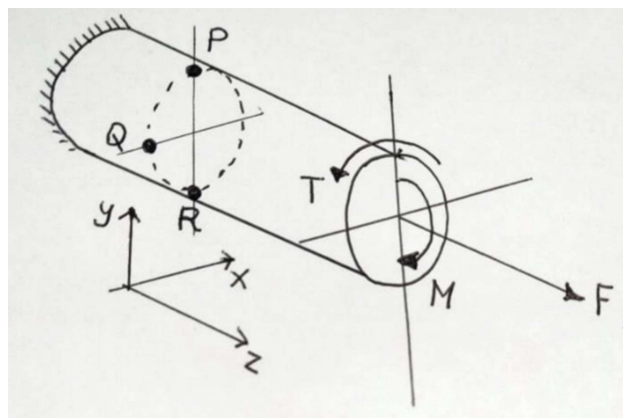

Figure Q4
4. A shaft of a 20mm diameter is subjected to an axial tension of $F = 5000 \text{ N}$, bending moment $M = 200\pi \text{ Nm}$ and at the same time a torque of $T = 40\pi \text{ Nm}$ as shown in figure Q4 below. The point P is located at the top of the shaft, Q at the middle line of the shaft coinciding with the neutral axis and point R is located at the bottom of the shaft